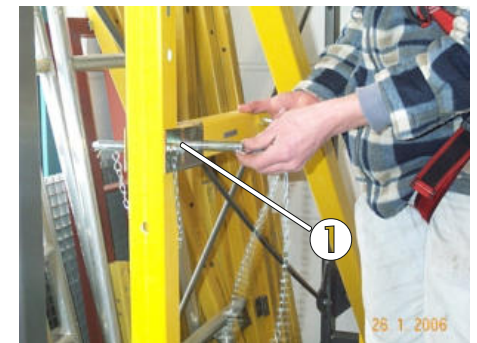

Fig. 64: Attaching the handrails
After the handrails have been positioned, short locking bolts are to be used to secure them (fig. 64/pos.1).